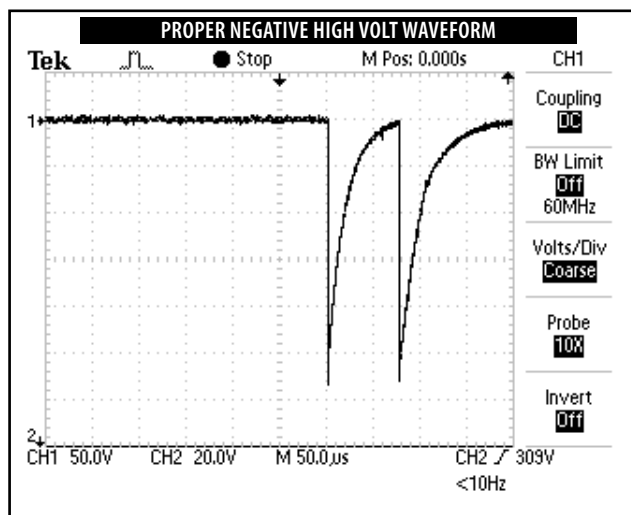

FIGURE 5.12
6. Compare waveform on scope to Figure 5.12.
1. Waveforms on scope the same as Figures 5.12 and 5.13 and Amps do not exceed 1.5. Unit passed test.